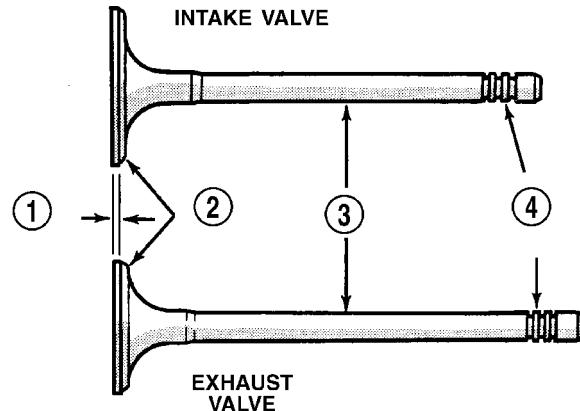

Fig. 27 Intake and Exhaust Valves
- (1) Inspect the remaining margin after the valves are refaced (Fig. 27). (Refer to 9 - ENGINE - SPECIFICATIONS)